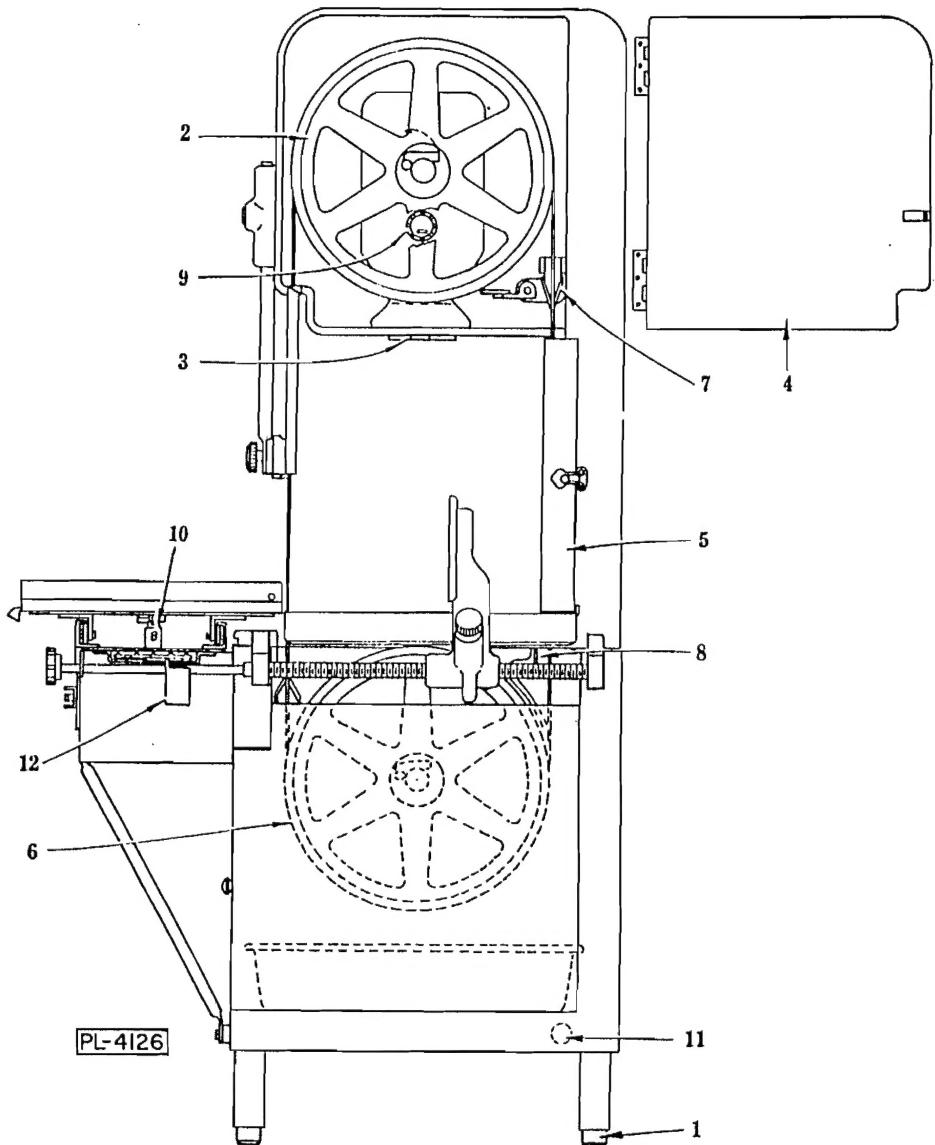
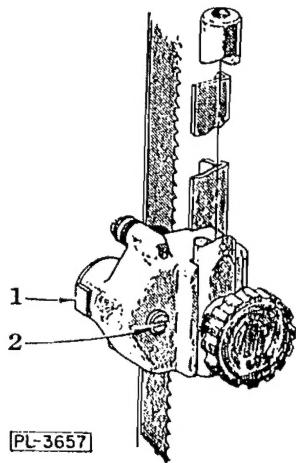
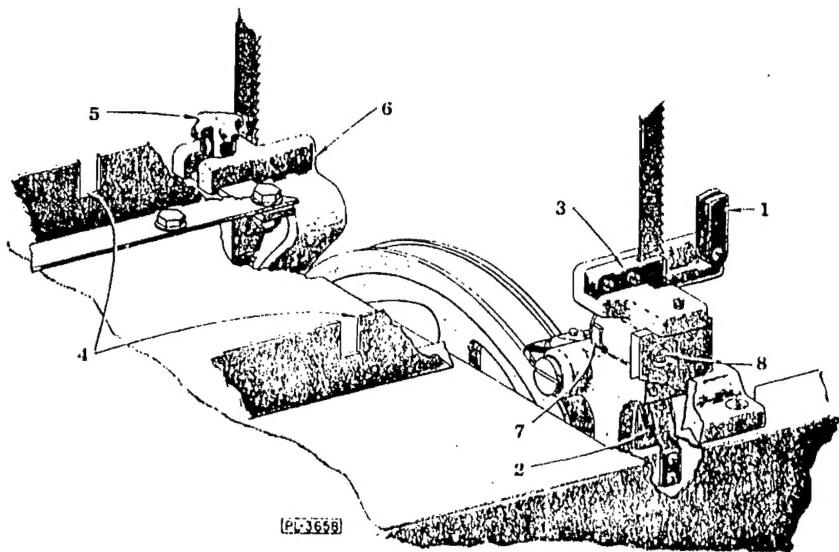
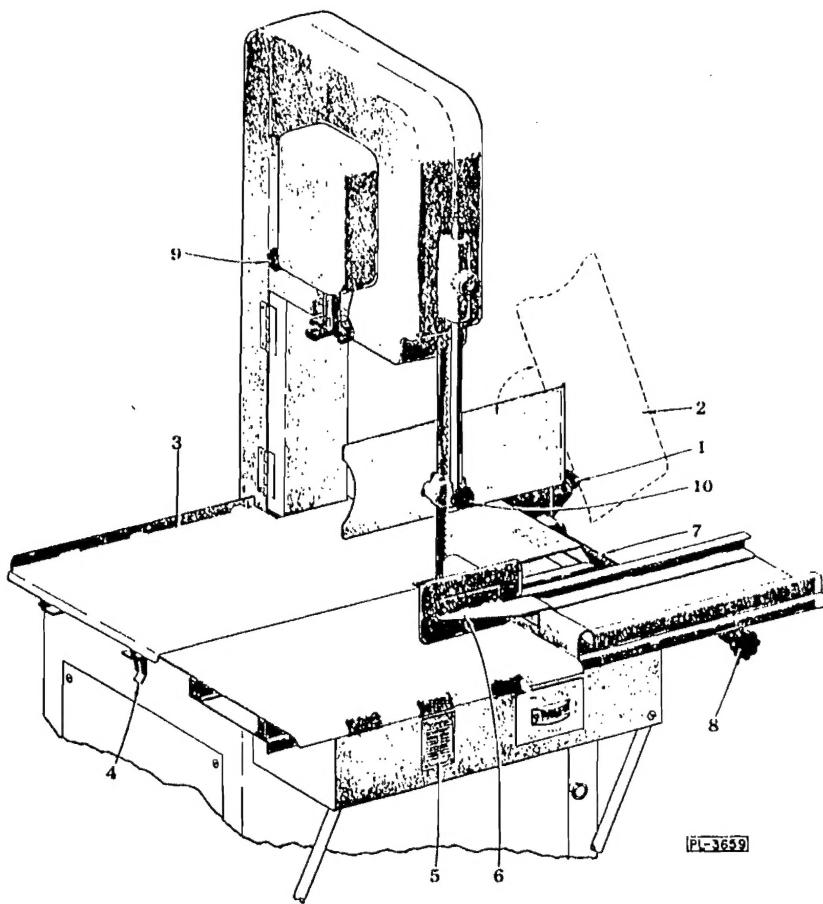

FIG. 1
FIG. 2
FIG. 3
FIG. 4
(1) Place the machine in the location where it is to be used. Re-assemble the feet (1, Fig. 1). Place a spirit level on top of the base unit and adjust the feet in the legs so that the base unit is level from side to side and front to back.
(2) Remove the motor access panel on the left side of the machine. Then using the two taper pins as locators, attach the front track and gusset assembly with the four retaining screws. Next assemble the two base plate support braces.
(3) Assemble the gage plate adjusting knob with shaft into position and lock in place with the rollpin furnished.
(4) Lower the upper blade pulley (2, Fig. 1) by giving the tension adjustment hand wheel (3, Fig. 1) a few turns to the left. Open the head door (4, Fig. 1), then unlatch and open the column cover (5, Fig. 1). Lift the knurled hand knob (1, Fig. 4) and raise the gage plate (2, Fig. 4) to its stopped position. Lift out the lower front wiper unit (Fig. 3) and lower the upper guide unit (Fig. 2) to its lowest position. Place the saw
blade over the upper blade pulley (2, Fig. 1) and lower blade pulley (6, Fig. 1). The teeth must point to the right and downward when viewed from the front as shown in Fig. 3. If they do not point downward, remove the blade, twist inside out and replace it on the saw. Make sure the blade is properly centered in the upper blade wiper (7, Fig. 1), the lower rear blade wiper (8, Fig. 1), and properly placed in the upper guide unit (Fig. 2). Turn the tension adjustment hand wheel (3, Fig. 1) to the right until the tension indicator (9, Fig. 1) reads "2." Give the upper blade pulley a few turns by hand so that the blade centers itself on the pulleys. Then turn the tension adjustment hand wheel slowly to the right until the indicator registers approximately "4". This is the best operating tension for the blade.
(5) Close the head door (4, Fig. 1) and column cover (5, Fig. 1).
(6) Assemble the lower front wiper unit (Fig. 3). Before sliding it into place, swing up the bakelite guard (1, Fig. 3) and see that the saw blade is between the two wipers (2, Fig. 3) and in the guide slot of steel block (3, Fig. 3). After sliding the unit into place, close down the bakelite guard (1, Fig. 3).
(7) With the gage plate (2, Fig. 4) in the raised position (clear of the table area), assemble the table (3, Fig. 4). The table is positioned by the locating slots (4, Fig. 3) in the table rest angles of the base. Make sure the reinforcing angles of the table are outside the table rest angles of the base. Lock the table in place by the spring catch (4, Fig. 4).
(8) The carriage may be assembled from either side. When rolling the carriage into place depress the carriage stop (10, Fig. 1). After this stop is released, the carriage will then be retained from rolling off.
Check the data on the name plate (5, Fig. 4) to make sure that it agrees with your electrical supply before connecting to the power line. Make your installation connection from the power line directly to the switch. To avoid having conduit at the front of the machine, it is recommended that flexible (or rigid) conduit be connected through the electrical inlet hole in the base (11, Fig. 1). The conduit connector on the end of the motor lead conduit should be assembled in the knock-out hole in the switch box. Next connect the motor leads to the switch.
(1) UPPER GUIDE ASSEMBLY (Fig. 2): Keep as low as the size of the work permits.
(2) DOORS: Keep all doors closed while the machine is running.
(3) BUTT-END PUSHER (6, Fig. 4): Use the pusher plate as described in paragraph VI and it will be unnecessary to hold your hand near the running saw blade.
(4) GAGE PLATE: The end of the gage plate (2, Fig. 4) is shaped to give maximum support and protection at this critical point, and at the same time, facilitate the taking off of slices.
(1) Keep a small amount of grease in the six ball bearing rollers on the carriage.
(2) Apply a few drops of oil occasionally to the gage plate screw (7, Fig. 4) and work the gage plate assembly back and forth a few times.
(3) Once a year, have a Hobart Service man look over the motor and main bearing carriers.
When cutting slices of uniform thickness, set the gage plate at the desired point with adjusting knob (8, Fig. 4) on the scale etched on the table. If the gage plate is not needed and interferes with the work, it may be raised out of the way. Lift the release knob (1, Fig. 4) and slide the gage plate on back to the end of gage plate screw (7, Fig. 4). The gage plate may be swung to a raised position at any setting along the gage plate screw without lifting the release knob.
To slice short ends, use the pusher plate (6, Fig. 4) to hold the meat against the gage plate. A rolled groove of the pusher plate slips over and slides along the rolled edge of the carriage. By holding the pusher plate with your right hand, your hand will then always be a safe distance from the saw blade and the stop will prevent the pusher plate from going too far. When not using the pusher plate, keep it stored beneath the carriage track, where provision has been made for holding it (12, Fig. 1).
(1) Roll carriage to extreme right or left. This exposes the carriage stop. Depress carriage stop and roll off stainless carriage.
(2) Rotate gage plate to raised position.
(3) Release spring catch and remove stainless steel table.
(4) Loosen the hand knob (9, Fig. 4), bump with hand to loosen stud and then remove the hand knob. Open head door and lift out upper blade wiper. Clean unit and lubricate with TASTELESS oil.
(5) Swing lower saw blade guard (1, Fig. 3) up and lift out lower wiper assembly. Clean unit thoroughly and lubricate with TASTELESS oil.
(6) Loosen hand knob (5, Fig. 3) and remove lower rear blade wiper (6, Fig. 3). Clean unit.
(7) Open base door and remove scrap pan.
(8) Release blade tension by turning tension adjustment hand wheel to the left. Open head door, unlatch and open the column cover. Remove saw blade.
(9) To remove the upper guide unit, remove the hand knob (10, Fig. 4) (blade tension already released) then lift off unit. Clean, lubricate with TASTELESS oil and replace.
(10) The upper and lower blade pulleys may be removed from their shafts by swinging the retaining latches clear of the shafts, then sliding the pulley from the shaft. Clean pulleys and lubricate bore before replacing.
- (1) Move the carriage to the left to the stop, then depress the stop and move the carriage a few more inches just beyond the bakelite guard.